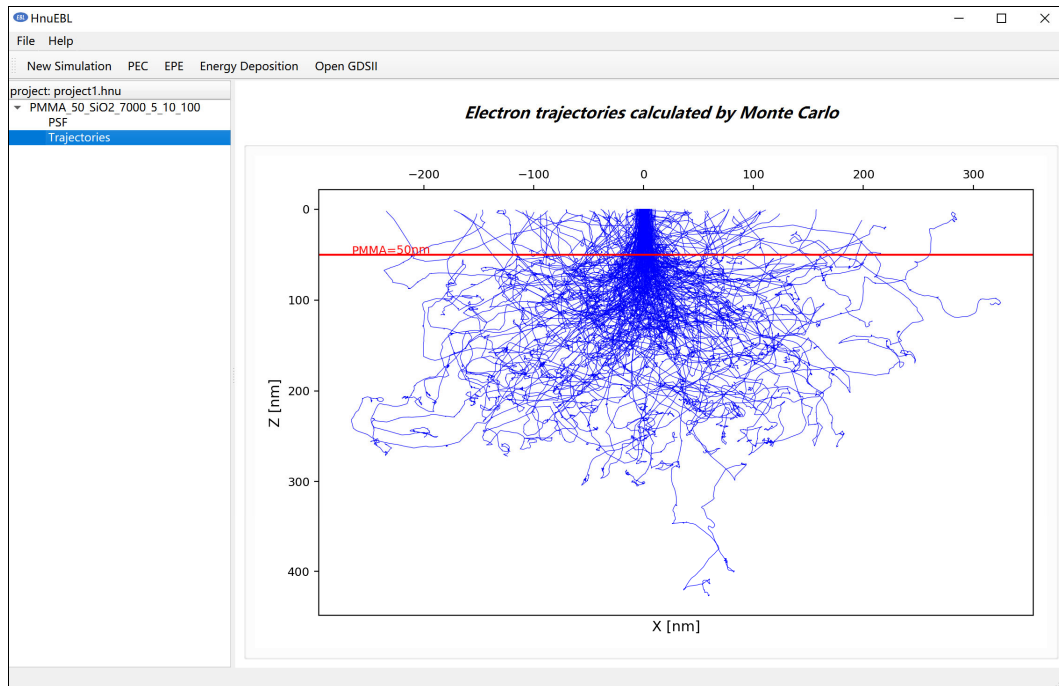

Figure 2.5.1 Electron beam scattering simulation
- 2) You can click "Trajectories" to display the electron beam scattering simulation results (Figure 2.5.1). For the convenience of observation, the red marking lines are the layer names and thicknesses of all layers except the substrate in the corresponding MC simulation.